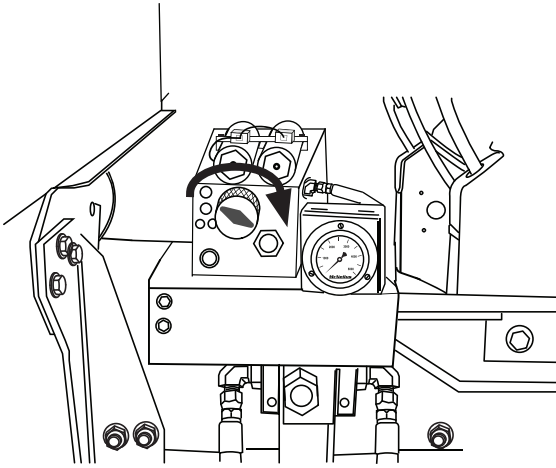

Figure 3
6. Turn the BM pressure knob all the way to the right (clockwise) (Figure 3).